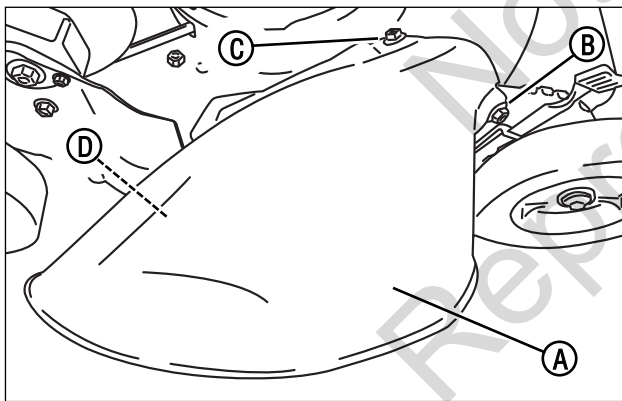

Figure 9: Installing the discharge deflector
2. Install the deflector (**A, Figure 9**) to the deck in place of the mulching cover, making sure that: